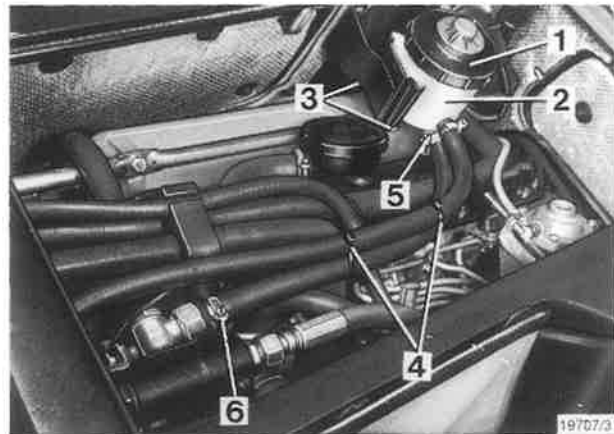

Fig. 2
- 5 Fix new hose with hose clips and mount cable clip in identical position - see fig 2.